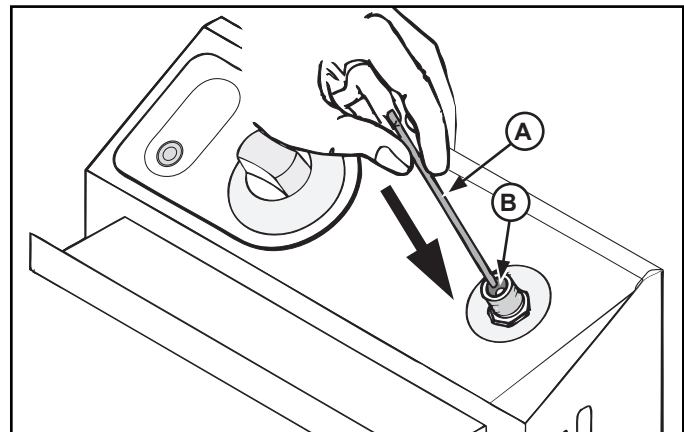

Figure 4. Resetting Switch.
3. Use a pen or similar narrow tool (A) and press the reset button (B) down. The button should stay in the down or in the set position. See Figure 4.